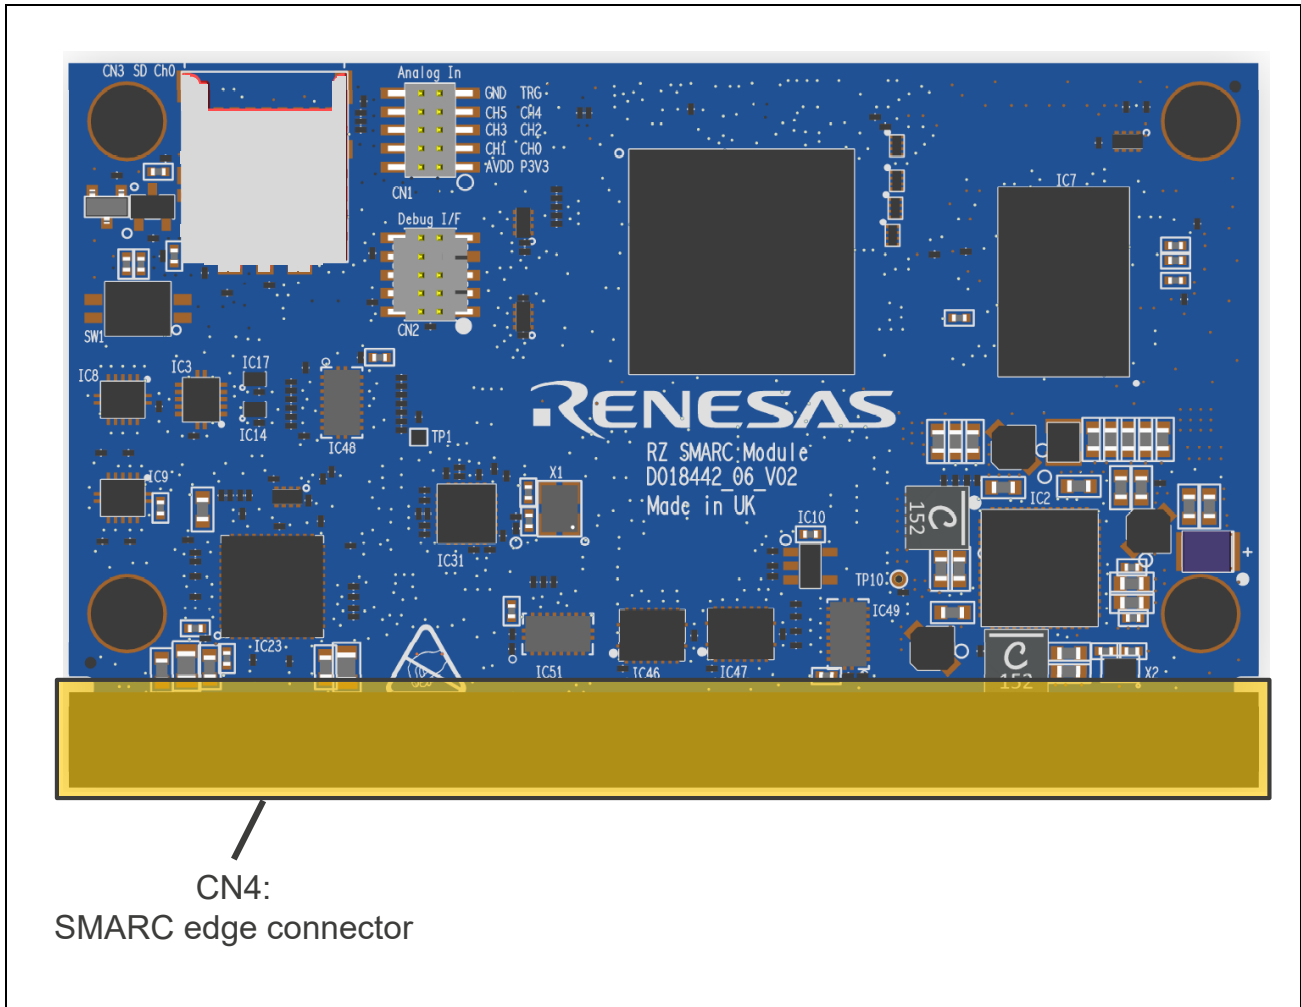

Figure 3.5 Layout of Carrier Board Connecting Pins
**Figure 3.5** illustrates the layout of Carrier board connecting connector pins. For the assignment of Carrier board connecting connector pins, please refer to the section4 “MODULE PIN-OUT MAP” of the document “SMARC module 2.1 Specification (sgt.org)”.